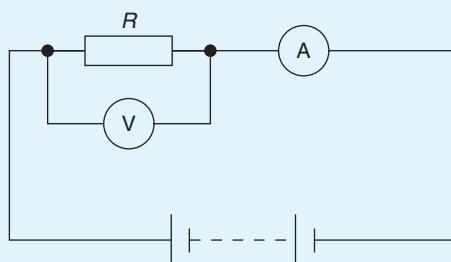

Figure 5.44
11. If in the circuit shown in Fig. 5.44, the reading on the voltmeter is  $5\text{ V}$  and the reading on the ammeter is  $25\text{ mA}$ , the resistance of resistor  $R$  is: